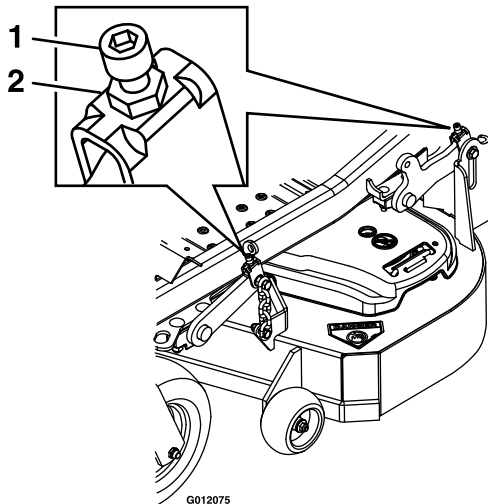

Figure 29
10. Fine tune the front deck lift assembly by turning the adjuster screw until it reaches the 3 inch (7.6 mm) height (see Figure 29). To increase the height, turn the adjuster screw clockwise; to decrease, turn counterclockwise.